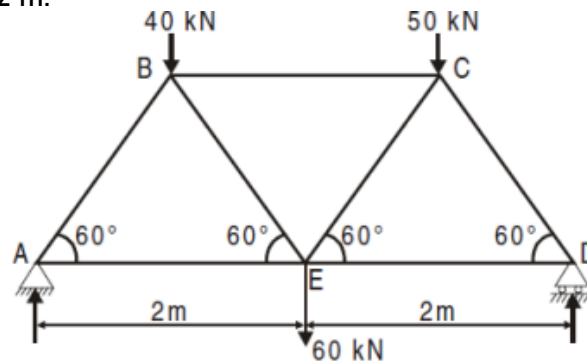

Fig 12.a
12. a Determine the forces in all the members of the truss shown in Fig.12.a and indicate the magnitude and nature of forces on the diagram of the truss. All inclined members are at 60° to horizontal and length of each member is 2 m. L2 2 16